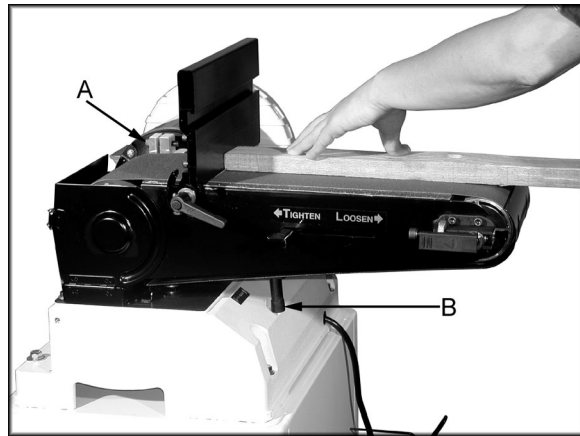

Figure 7
1. Loosen the socket head cap screw (A, Fig. 7) so that the sanding belt can be rotated to the horizontal position.
2. Rotate the sander until the stop (B, Fig. 7) contacts the sander base. Tighten the socket head cap screw.
3. When the sanding belt is used in the horizontal position, the table may be used as a workstop, as shown in Figure 7.